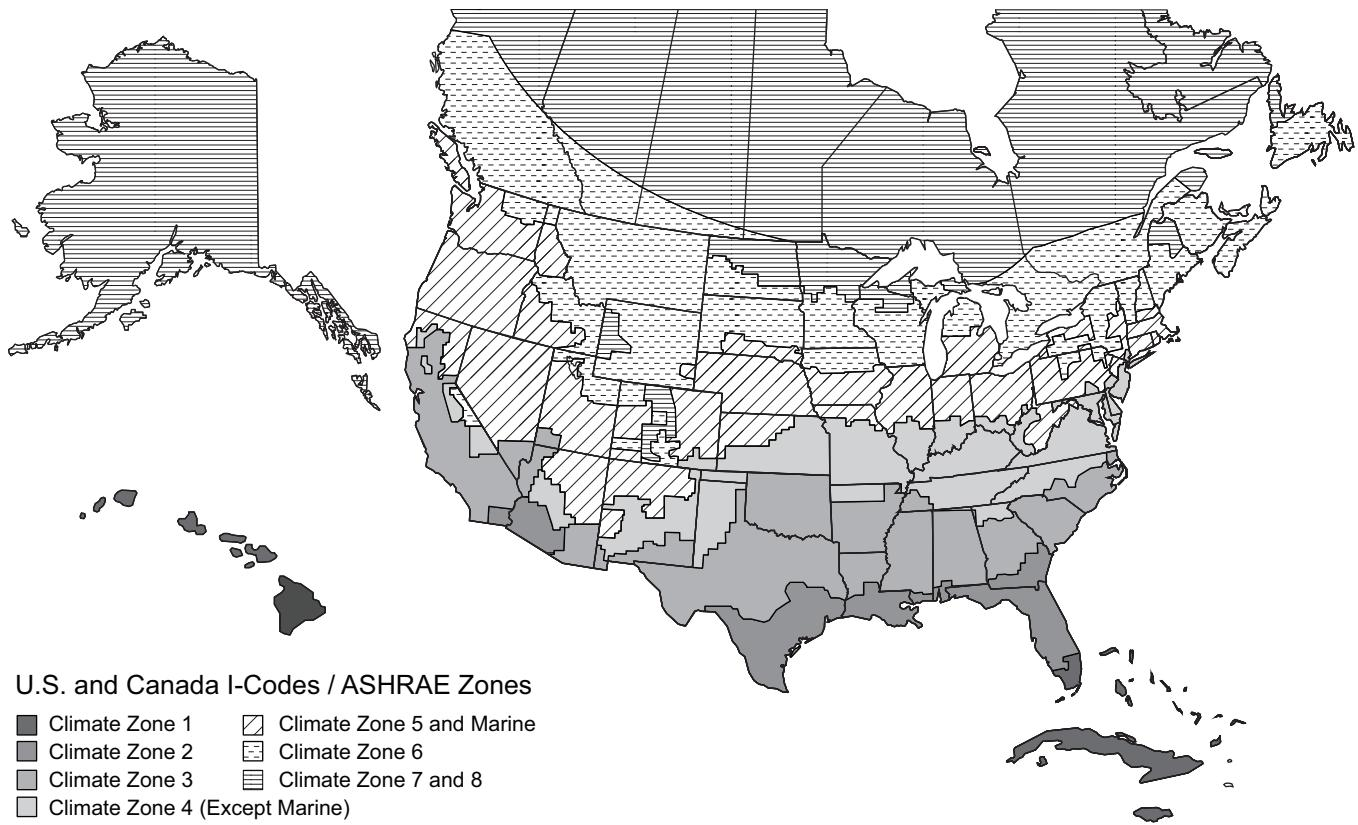

Fig. 69 — U.S. and Canada Climate Zones
- Refer to Fig. 69 for map of U.S. and Canada climate zones.